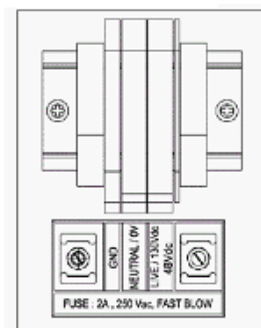

Fig. 1: Universal Power Input Terminal Block
- 1.4.1 The Positron TeleLite CFJ or OEI assemblies can be powered from either -48Vdc, 120Vac or 130Vdc, depending on site conditions. Feed the incoming power to the fused power input terminal block mounted on the assembly backboard. See Figure 1, per the power sourcing requirement for a hybrid fiber CFJ located at the 300 volt point of the GPR contour, per IEEE 487.3.